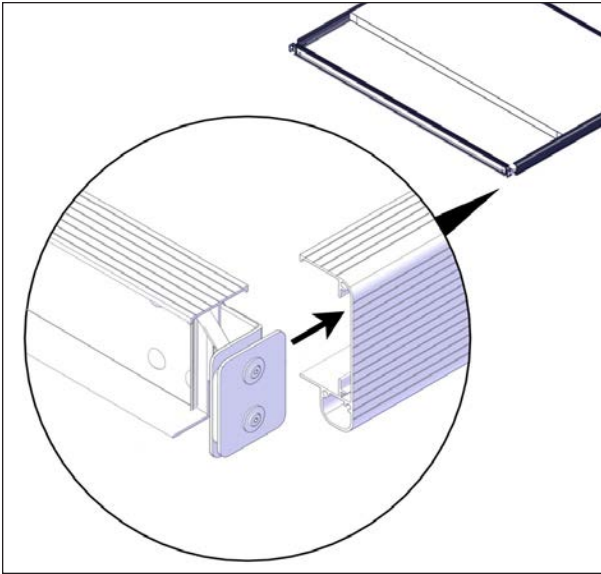

FIGURE 51: I-BEAM INSTALLATION
15. Slide an I-beam with the short I to C connection plates in the C-channels with the bent portion pointing outwards see Figure 51.